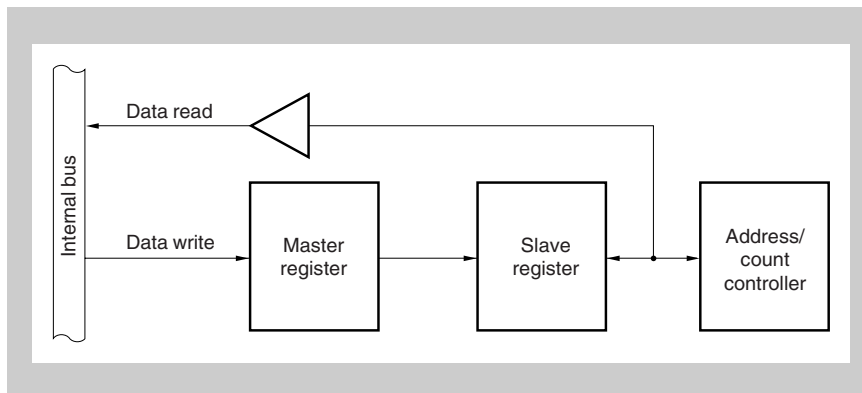

Figure 8-1 Buffer register configuration
*Figure 8-1* shows the configuration of the buffer register.